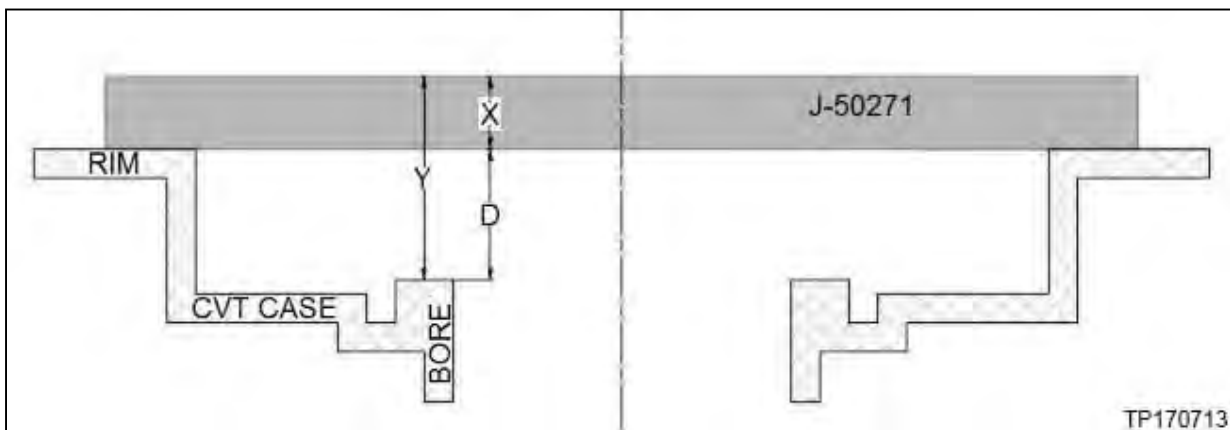

Figure 133
HINT: If Gauge Block J-50271 is not used, the thickness of the substitute gauge block will need to be measured. The thickness of the gauge block is shown as "X" in Figure 133 on page 64.
105. Measure the average distance (Y) shown in Figure 133 as follows:
- Refer to Figure 131, Figure 132 and Figure 133, then proceed to page 65.